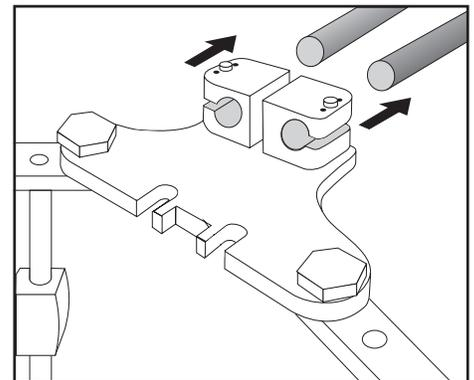

Figure 2.10. Slide adapter on to rods
2. With clamp on top, slide the anamorphic adapter on to the adapting rods of the lens mount (Figure 2.10).